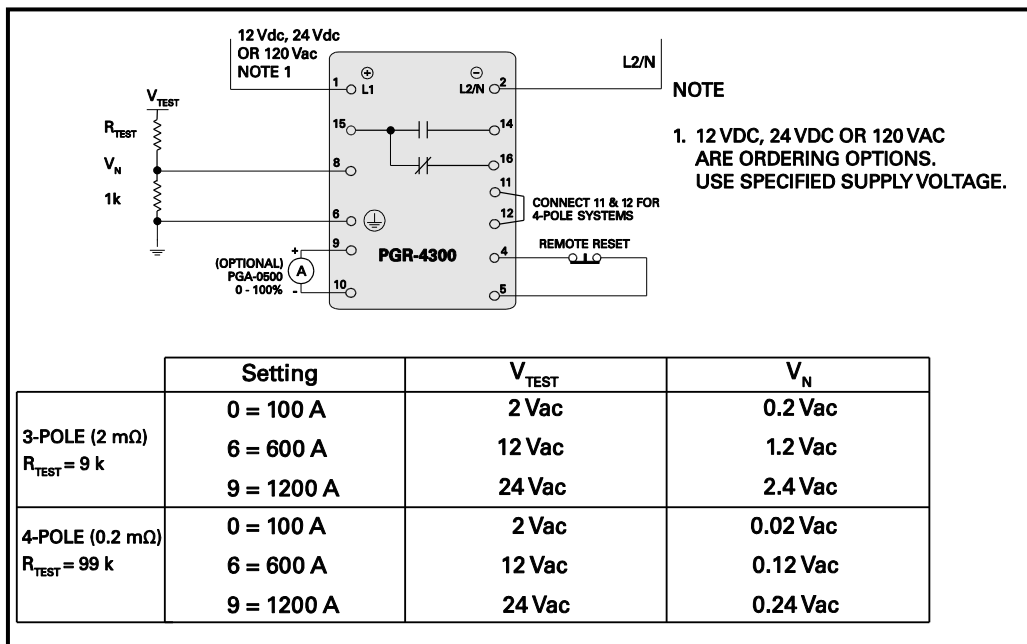

FIGURE 7. PGR-4300 Performance Test Circuit.
- c) Verify proper reaction of the device in response to a simulated ground-fault current. To simulate ground-fault current, set up a voltage-divider circuit as shown in Fig. 7.
Fig. 7 updated.